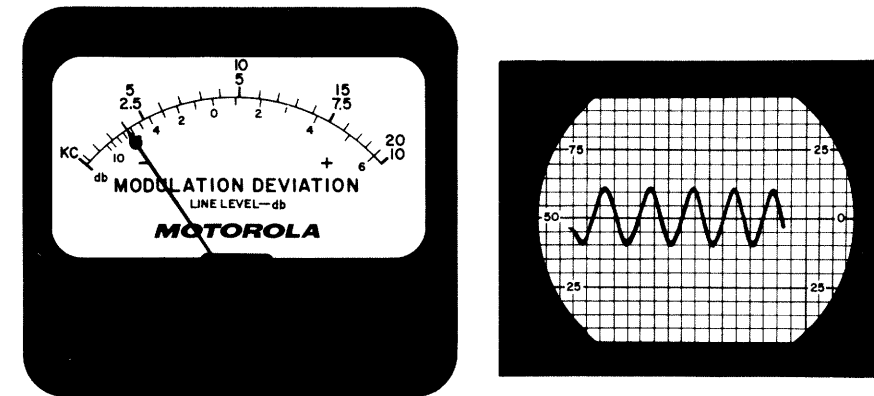

Figure 1.
- Adjust the vertical gain of the oscilloscope so that the total recovered audio pattern occupies some convenient height, e.g., four small squares. (12 squares in a wide-band system.) The split-channel indication is shown in figure 1.